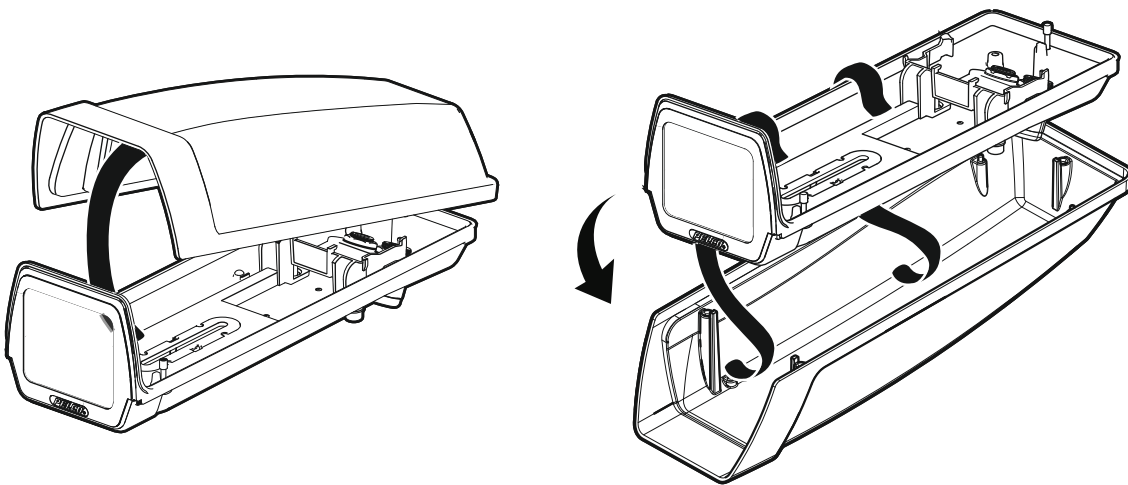

Figure 1. Removing the Lid with Lanyards Attached
2. Stretch the lanyard around the inside of the lid to the opposite side and attach the free end of the lanyard to the pins in the lid (refer to Figure 1 on page 6).